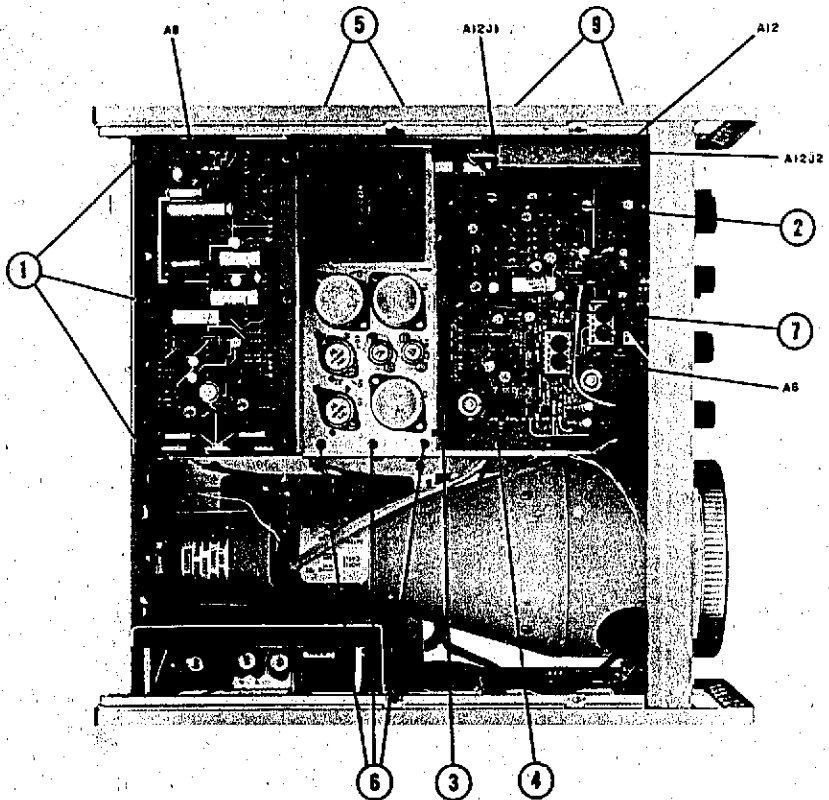
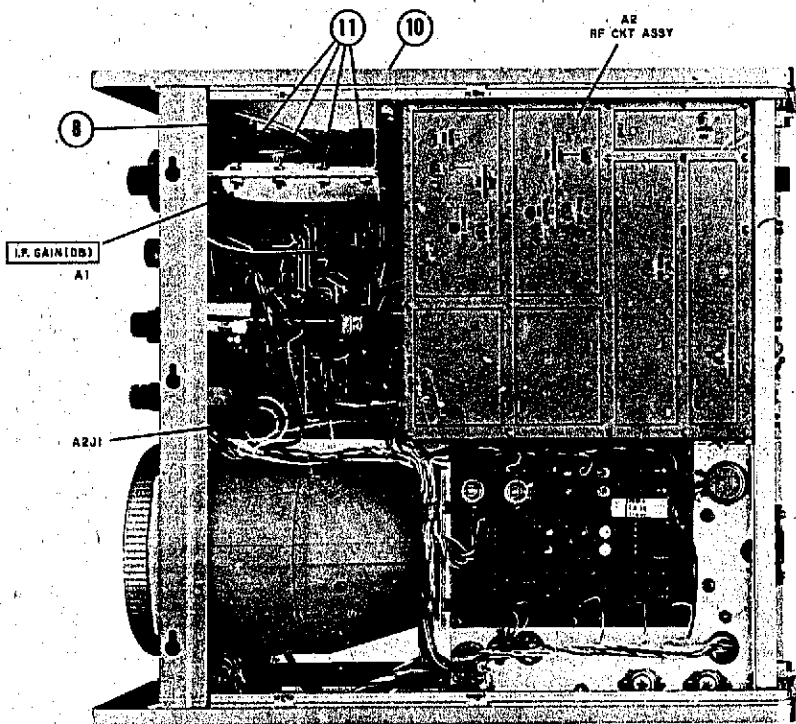

Figure 5-19. Top View of 851 Display Section
Figure 5-21. Bottom View of 851 Display Section
b. Refer to Figure 5-19. Remove the three screws designated (1); these are 6-32 x 3/8 BH machine screws with integral lockwasher, and are accessible from the rear plate.
c. Remove screws (2), (3), (4); these are 6-32 x 3/8 BH machine screws, each fitted with a split lockwasher.
d. Remove the two screws designated (5); these are 6-32 x 3/8 FH machine screws fitted with integral lockwashers. Screw heads are accessible from right side of instrument.
e. Remove three screws (6) on the deck; these are 6-32 x 3/8 BH machine screws fitted with toothed lockwashers.
f. Remove the 6-32 x 5/16 stainless steel hex nut designated (7); a 5/16 socket wrench (Spintite) is recommended. This nut secures a 6-32 x 1/2 spade lug connected to a cable clamp. After removing nut, push down on screw so it will drop out of deck hole and hole in A6 Board.
g. On rear of A6 Board, find screw designated (8) on Figure 5-21. This screw is also a 6-32 x 1/2 spade lug connected to a cable clamp, and is secured to the A6 Board by a nut which is located under Assembly A12. Long-nose pliers can be put on the nut while
b. Disconnect cable from A12J1 (Figure 5-19).
c. Remove two screws (9) which hold A12 to the side casting; these are 6-32 x 3/8 FH machine screws with integral lockwashers.
d. Disconnect cable from A12J1 (see Figure 5-19). This is a right-angle connector and is a tight fit; if there is difficulty disconnecting it, remove screws designated (9) which secure A12 to the side casting, and lift Assembly A12 up far enough to disconnect the cable from A12J1.
e. Remove screw (10) (Figure 5-21) which holds Assembly A1 bracket to left-side casting; this is an 8-32 x 1/2 FH machine screw with integral lockwasher.